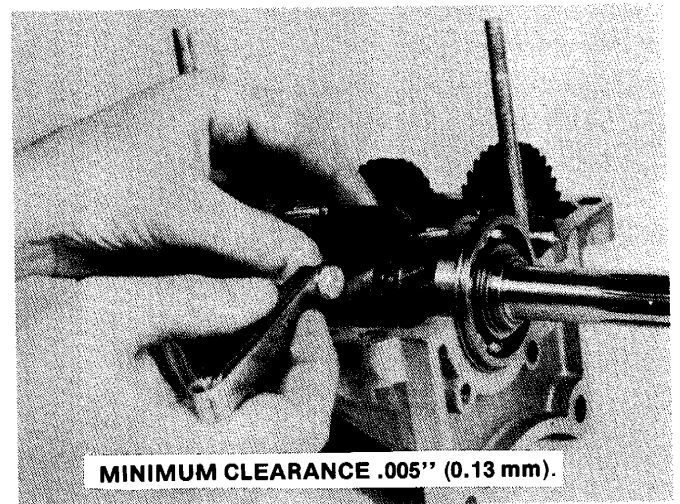

FIGURE 16
1. Check clearance between bronze synchronizer ring (both rings should be checked) and gear. Although transmission will function properly as long as there is clearance at this point, it is advisable to replace the synchronizer rings if the clearance is less than .005'' (0.13 mm). Figure 16.